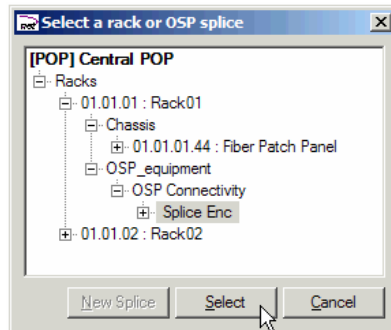

Figure 232 – New OSP fiber splice point in rack
- After creating the new splice, expand the **OSP Equipment** branch of the rack view and **Select** the splice, as shown in Figure 232, below. This will begin the cable creation process.
12. Select the rack containing the end of the OSP fiber we just created (**Rack01** if you followed the example in Figure 232). You may do this by bringing up a floorplan view or rack elevation (see Step 91) containing it, running the menu command **FM ISP > List > Racks**, or by any other selection method.
16. With the **Splice Enclosure** selected as in item 14, splice the Term Panel to the OSP Fiber (see Step 43 of Part A on page 133).